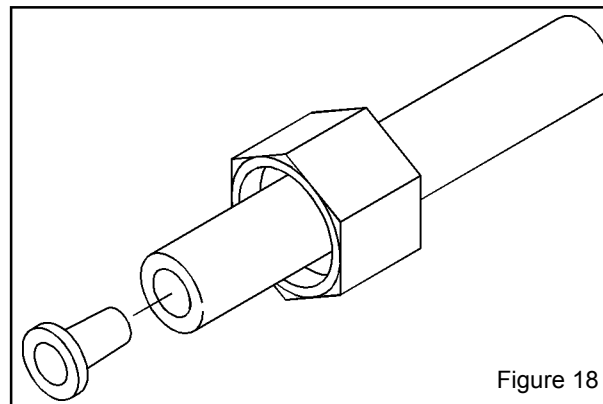

Figure 18
- Slip the white nut over one end of the tubing and press the plastic insert into the end of the tubing (Figure 18). Connect to the brine valve and tighten nut.
- Slip the white nut over one end of the tubing and press the plastic insert into the end of the tubing (Figure 18). Connect to the brine connection on the valve and tighten nut.